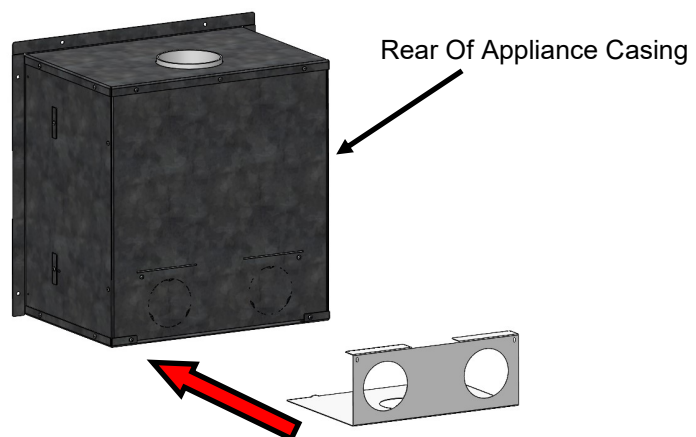
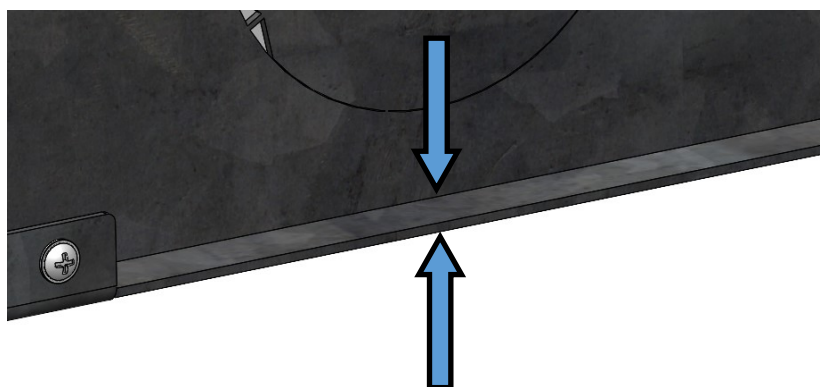

Fig. 1. Rear Of Appliance
Fig. 2. Base Slot Detail
Step 1 : On the rear of the appliance external casing (Fig. 1), insert the direct air connection plate into the base slot, as indicated in Fig. 2.